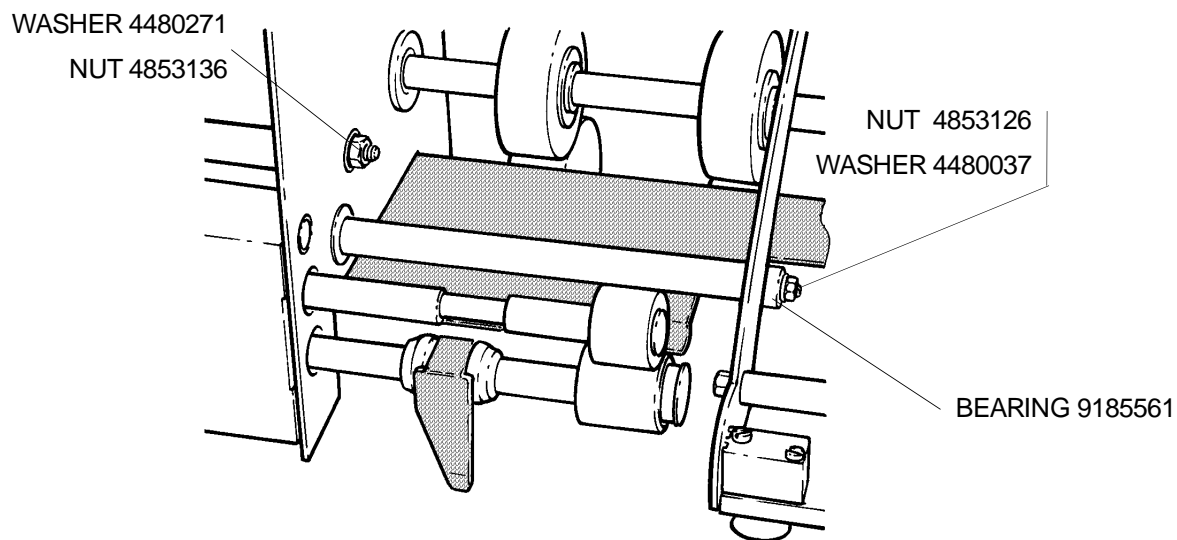

figure 3
11. Remove and discard indicated parts on figure 3. Install new parts.